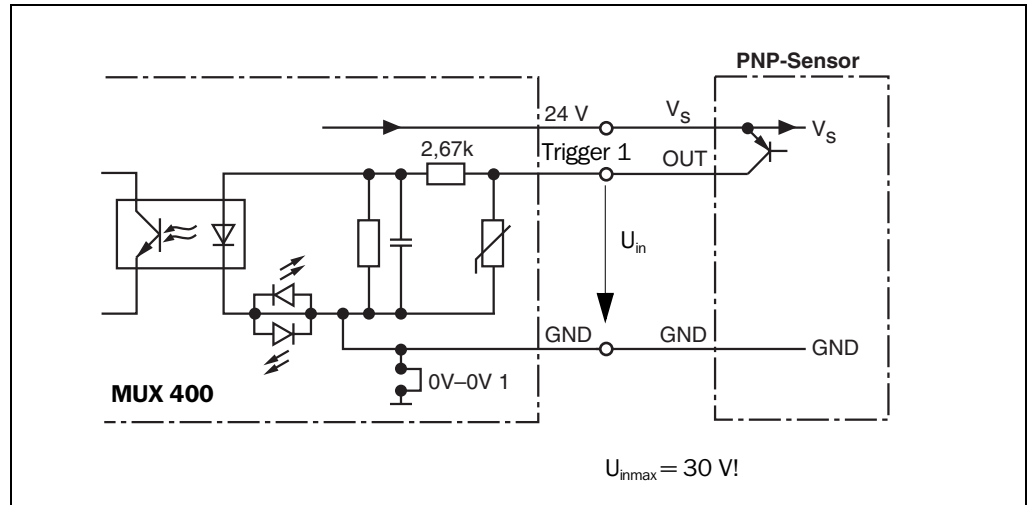

Fig. 5-5: Connecting the digital input "TRIGGER 1"
If the MUX 400 is to distribute the reading pulse in the network, the external read trigger sensor can be connected to the "TRIGGER 1" digital input. The reading pulse signal will be forwarded by the MUX 400 to the bar code scanners via the CAN bus. This trigger type is selected in the default setting of the MUX 400. Fig. 5-5 shows the connection diagram for the input, which is floating in the default setting (jumper "0V – 0V 1" opened). Table 5-12 contains the characteristic data for this input.
- Connect the reading pulse sensor to the terminal strip in the blue field "TRIGGER 1" as shown in Fig. 5-5.